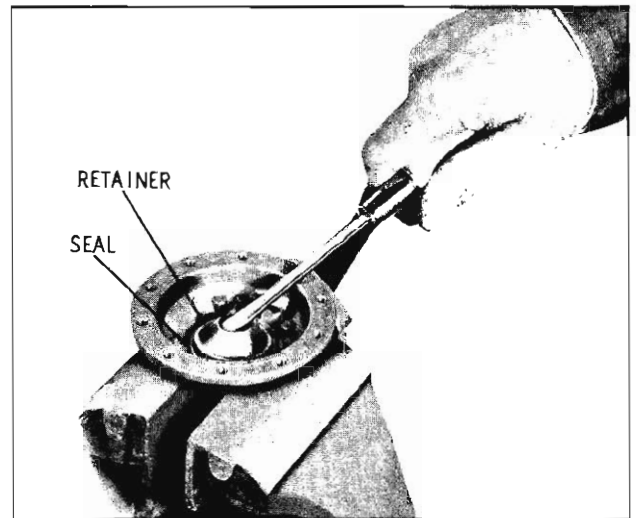

Fig. 3-62 Removing Fuel Pull Rod Seal
7. Position pump body in vise. Remove pull rod retainer and seal as shown in Fig. 3-62.